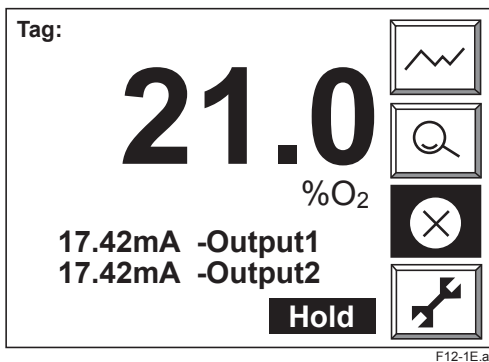
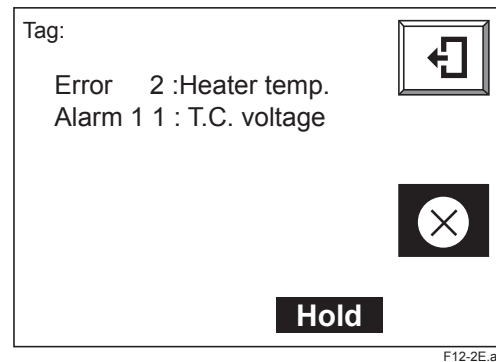

Figure 12.1
Figure 12.2
- (1) Stops the supply of power to the heater in the detector to insure system safety.
- (2) Causes an error indication in the display to start blinking to notify of an error generation (Figure 12.1).
- (3) Sends a contact output if the error is set up for Contact output setting for that contact (refer to Section 8.4, Contact Output Setting).
- (4) Changes the analog output status to the one set in Output hold setting. (refer to Section 8.2, Output Hold Setting).
When the display shown in Figure 12.1 appears, pressing the error indication brings up a description of the error (Figure 12.2). The content of errors that are displayed include those shown in Table 12.1.